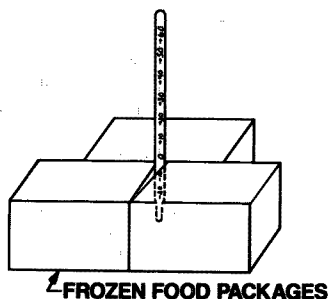

Figure 2
- e. In freezer section, put thermometer snugly between frozen food packages. See Figure 2.